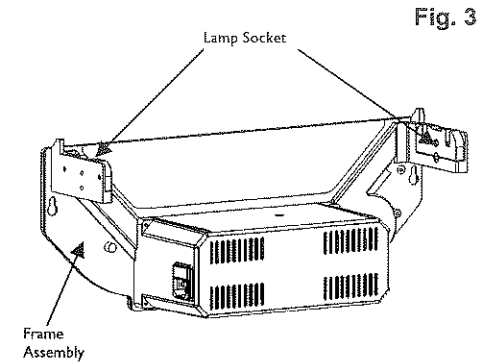

Fig. 3
3. Insert new lamps and twist lamp 90° (see page 5, Fig. 3). Lamps should be replaced in pairs, to maintain optimum attraction of insects.
1. Remove the ultraviolet lamps from the box. Insert the lamps into the lamp sockets by aligning the pins of the lamp with the light socket and twist 90 degrees. (Fig. 3)